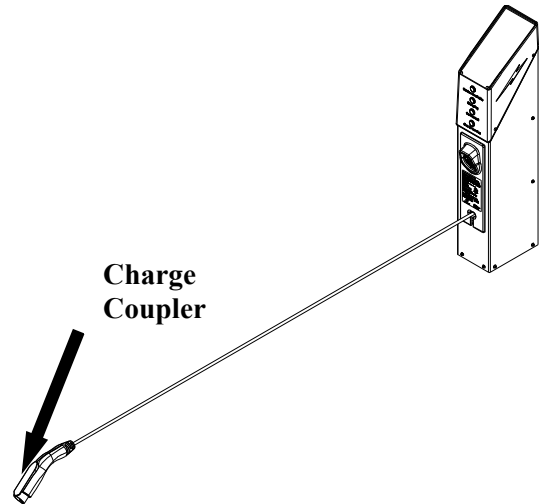

Figure 2 - Charge cable extended
3. Pull charge coupler and cable out completely (approximately 14 feet) until last ratchet stop of cord reel. (See Figure 2)